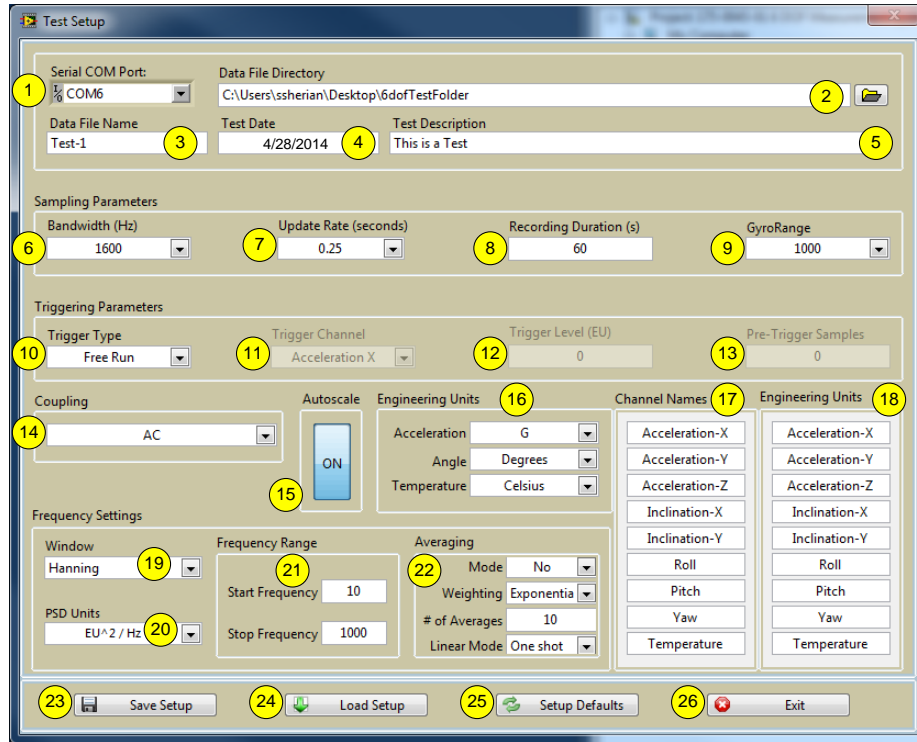

Figure 7: Test Setup Menu
- 3.1. Setup – This button will allow user to input setup parameters as shown in Figure 7.
4. Click on the “Setup” button to setup for a test. The Window in Figure 7 will display and user to define the following parameters as described in steps 4.1 to